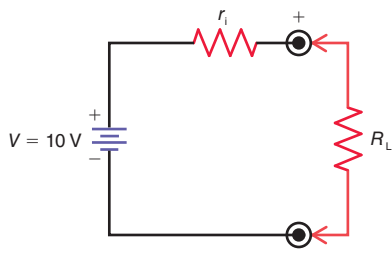

Figure 10-31
10.12 Refer to Fig. 10-31. If $r_i = 0.01 \Omega$, calculate I_L and V_L for the following values of load resistance:
10.13 Refer to Fig. 10-31. If $r_i = 10 \text{ M}\Omega$, calculate I_L and V_L for the following values of load resistance: